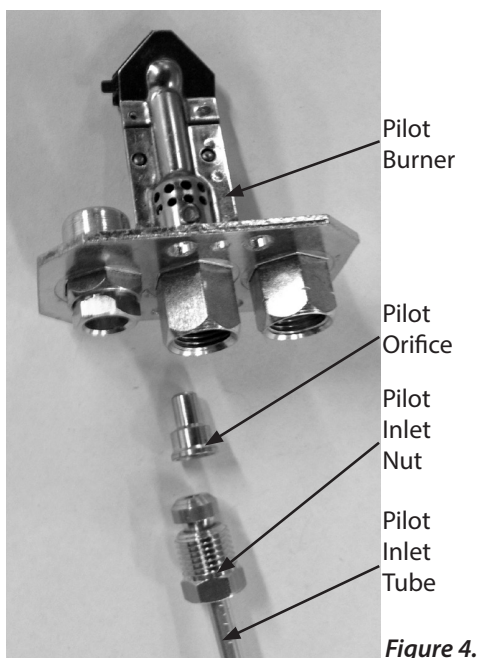

Figure 4.
Step 11: Remove the pilot burner inlet tube (10 mm) from the pilot burner. See Figure 4.
Step 12: Using a 10mm wrench, loosen the pilot inlet nut and remove the pilot burner inlet tube from the pilot burner. The pilot orifice should drop out of the pilot burner. See Figure 4.
Step 13: Remove the pilot burner orifice and replace it with the LP orifice (stamped 27) provided. Take care to observe the proper orientation. See Figure 4.